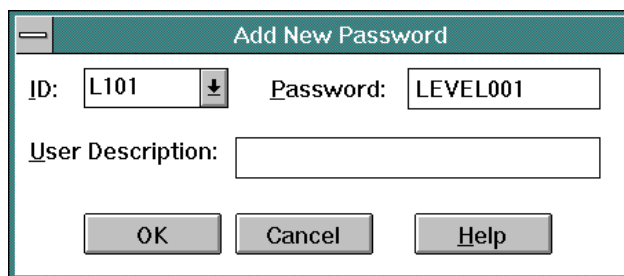

Figure 176. Add New Password Dialog Box
4. Click the *Add* button. The *Add New Password* dialog box appears (Figure 176).